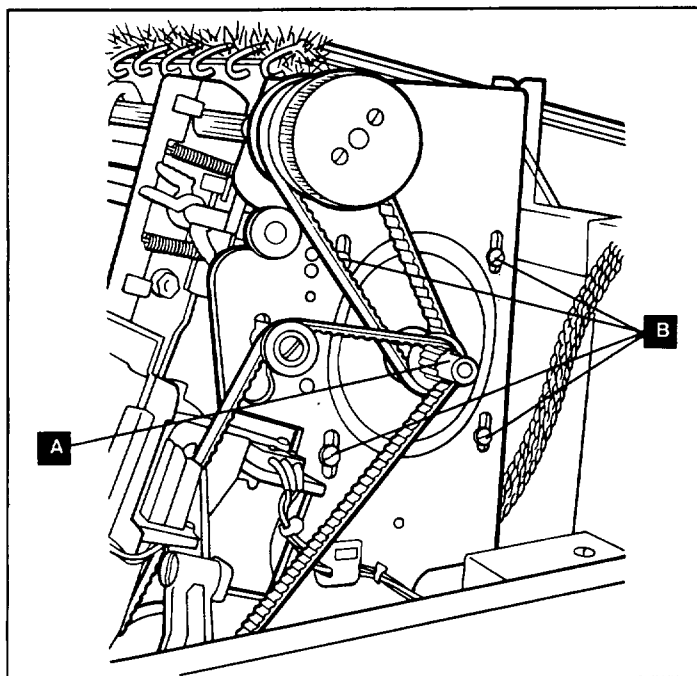

Figure 28. Forms Drive Motor
See Figure 28.
2. That the forms motor pulley and the forms knob and pulley **A** are tight and aligned correctly (see Figure 28 on page 300-32).